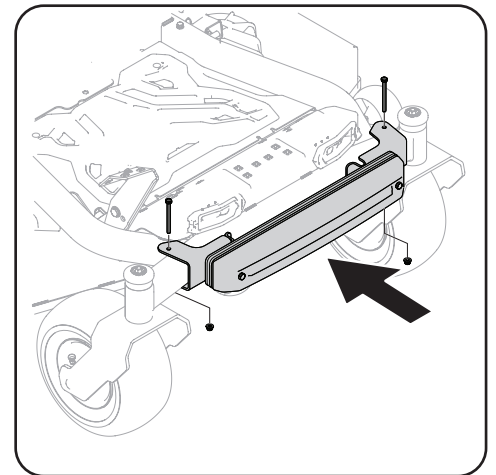

Figure 4-25
3. Visually center the weight bar assembly on the tractor and using two 5/16" Hex head capscrews (710-3056) and two nuts (712-04063) secure the counter weight assembly to the tractor as shown in Figure 4-25.